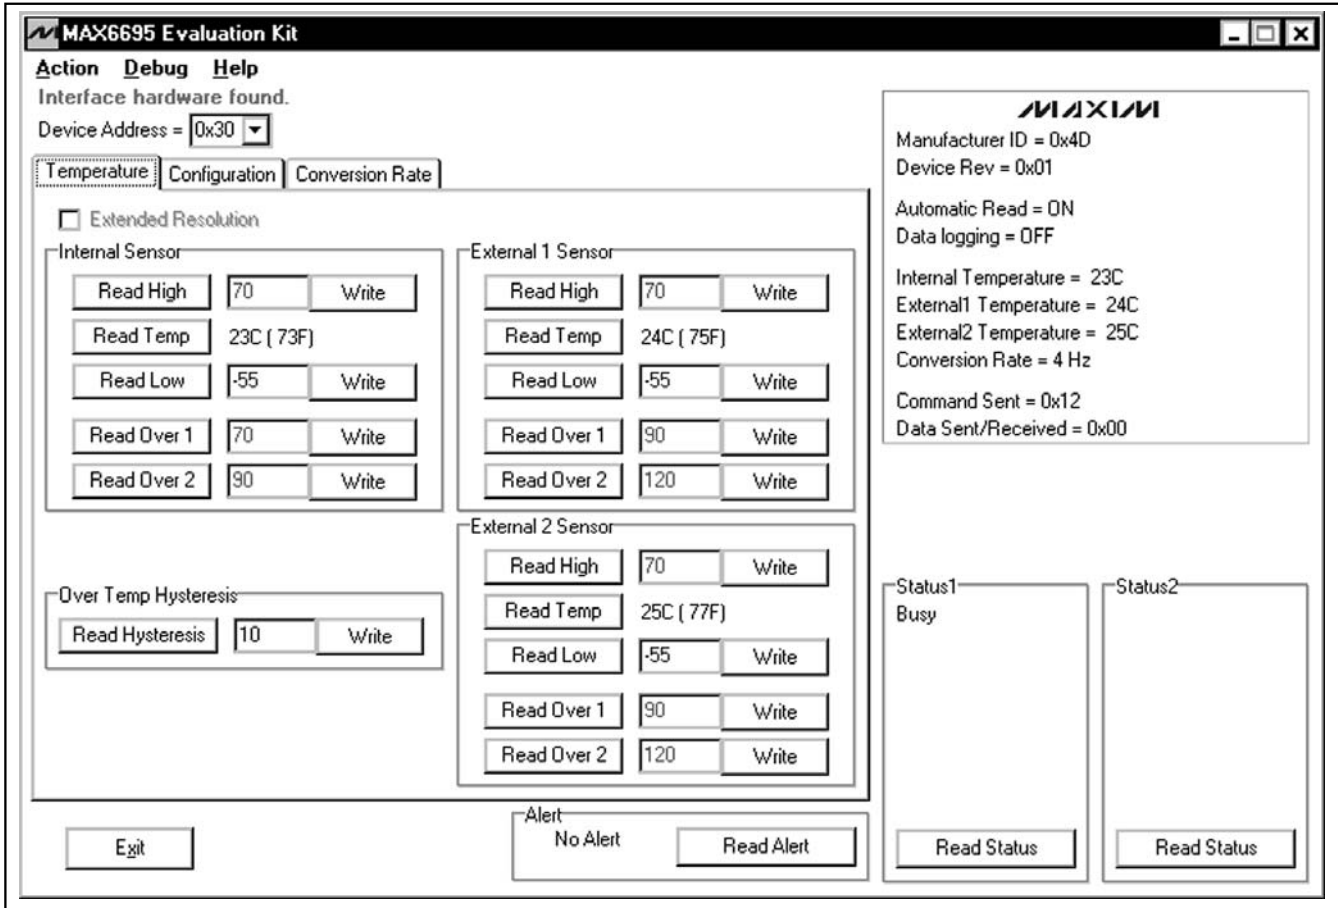

Figure 1. Main Window for the MAX6695 EV Kit Software
- 9) Wait until the program automatically detects the address of the MAX6695 and displays the user-interface panel (Figure 1).
The MAX6695 monitors its own temperature and the temperature of two external diodes. All temperature measurements are capable of either 8-bit or 11-bit (extended) resolution; 8-bit resolution results in temperature resolution of 1°C/LSB. Extended resolution results in temperature resolution of 0.125°C/LSB. Enable extended resolution by selecting the **Extended Resolution** checkbox (Figure 1). **Note:** Extended resolution is only valid for conversion rates of 2Hz or less.
Read the temperatures by clicking on the **Read Temp** buttons (Figure 1). The temperature is shown to the right of the buttons.
Read the high, low, and over-temperature limits by clicking on the **Read High**, **Read Low**, **Read Over1**, or **Read Over2** buttons, respectively (Figure 1). The value (in Celsius) is shown to the right of the button. Change the high, low, and over-temperature limits by entering the value (in Celsius) into the appropriate edit field. Pressing Enter, after typing in the new value, updates the internal register.
Read the hysteresis register by clicking on the **Read Hysteresis** button (Figure 1). The value (in Celsius) is shown to the right of the button.